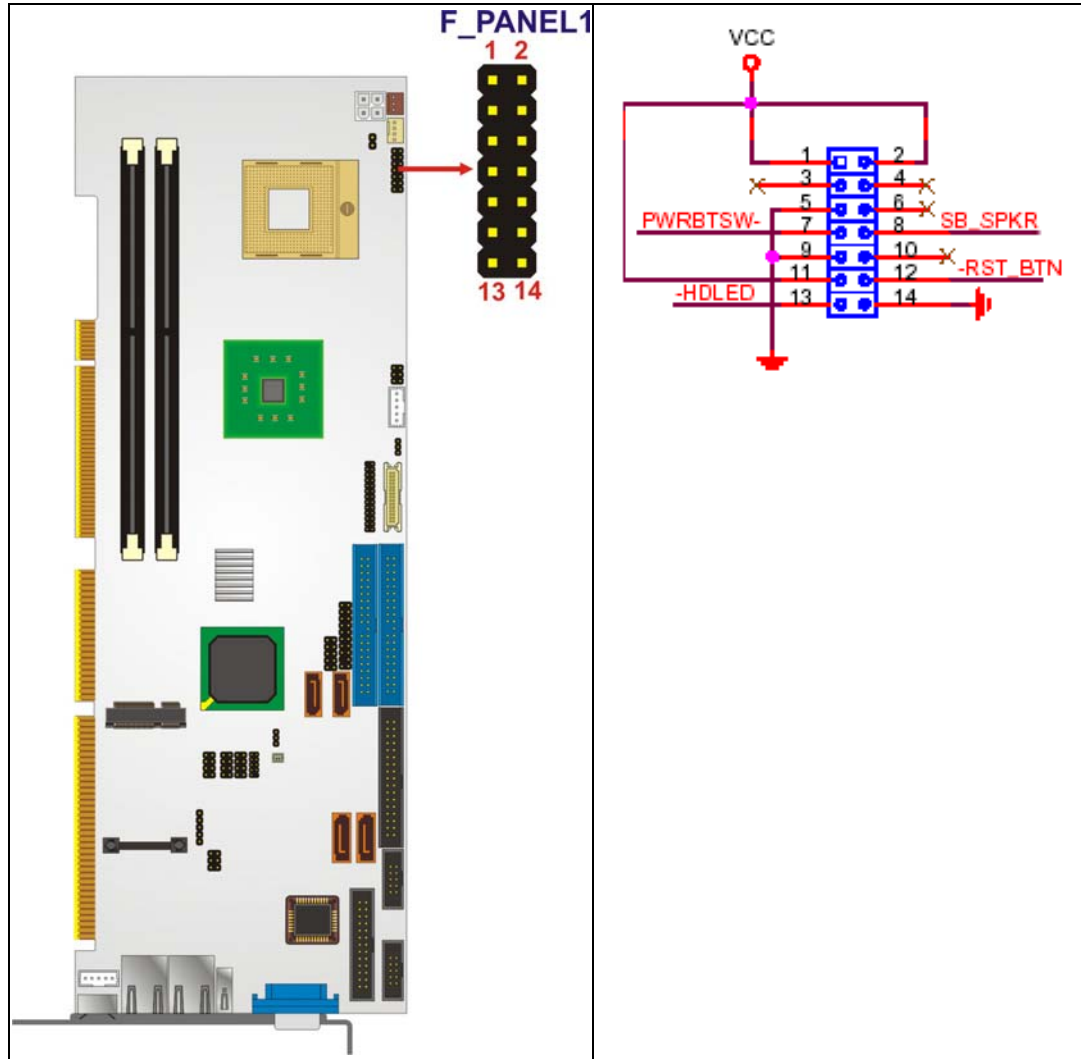

Figure 4-9: Front Panel Connector Location
- CN Location:** See **Figure 4-9**